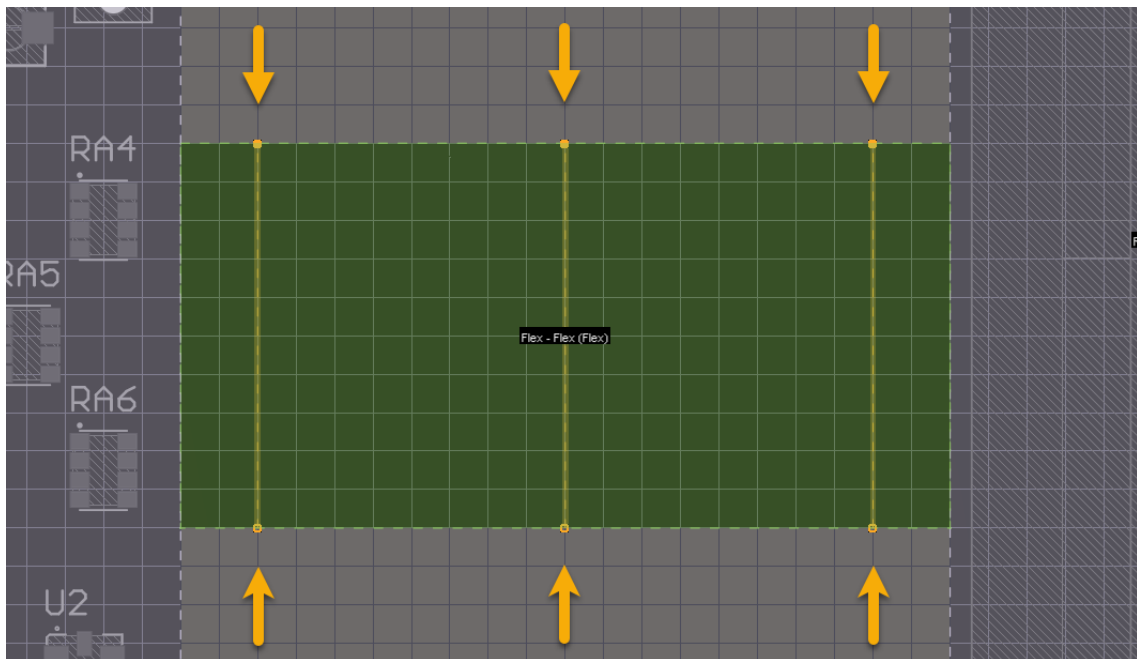

Figure 11. Three Bending Lines added to Flex region
36. Add another bending line in the middle of the flex board between (2500, 2000) and (2500, 1000). The three lines should appear, as shown in Figure 11.